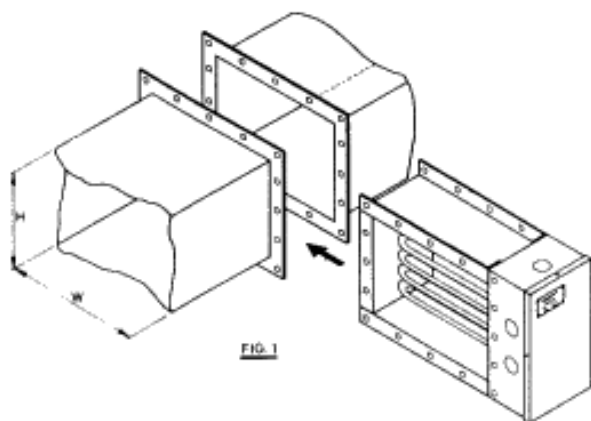

FIG. 1
- 1.3 Flanged/Full Case type heaters are bolted to the duct by means of an externally flanged frame which matches turned out duct mounting flanges as illustrated in Figure 1.